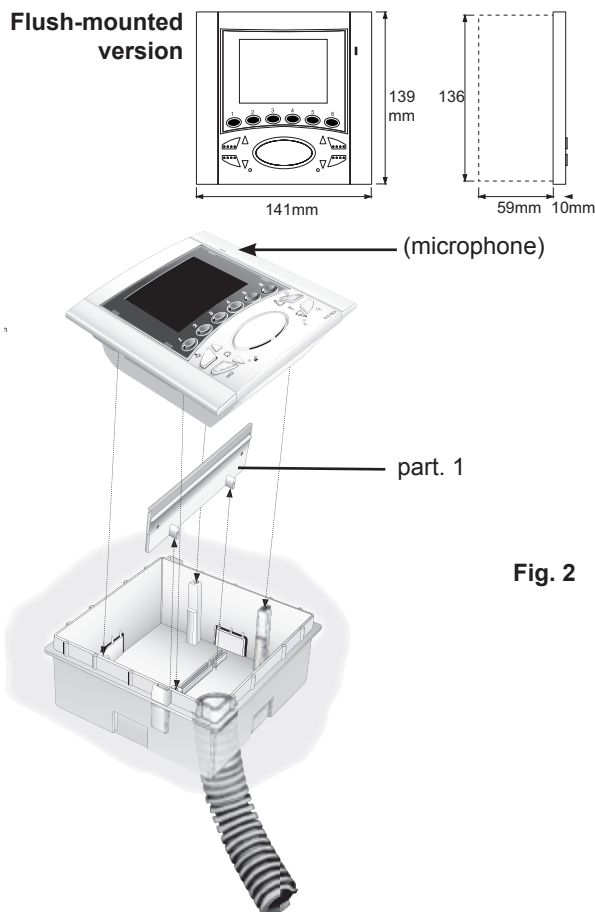

Fig. 2
- Remove the plastic cross-piece from the back box (see part. 1, Fig. 2)
- Fit the side panels, taking care that the panel with the slot for the microphone is fitted on the right (fig. 2).